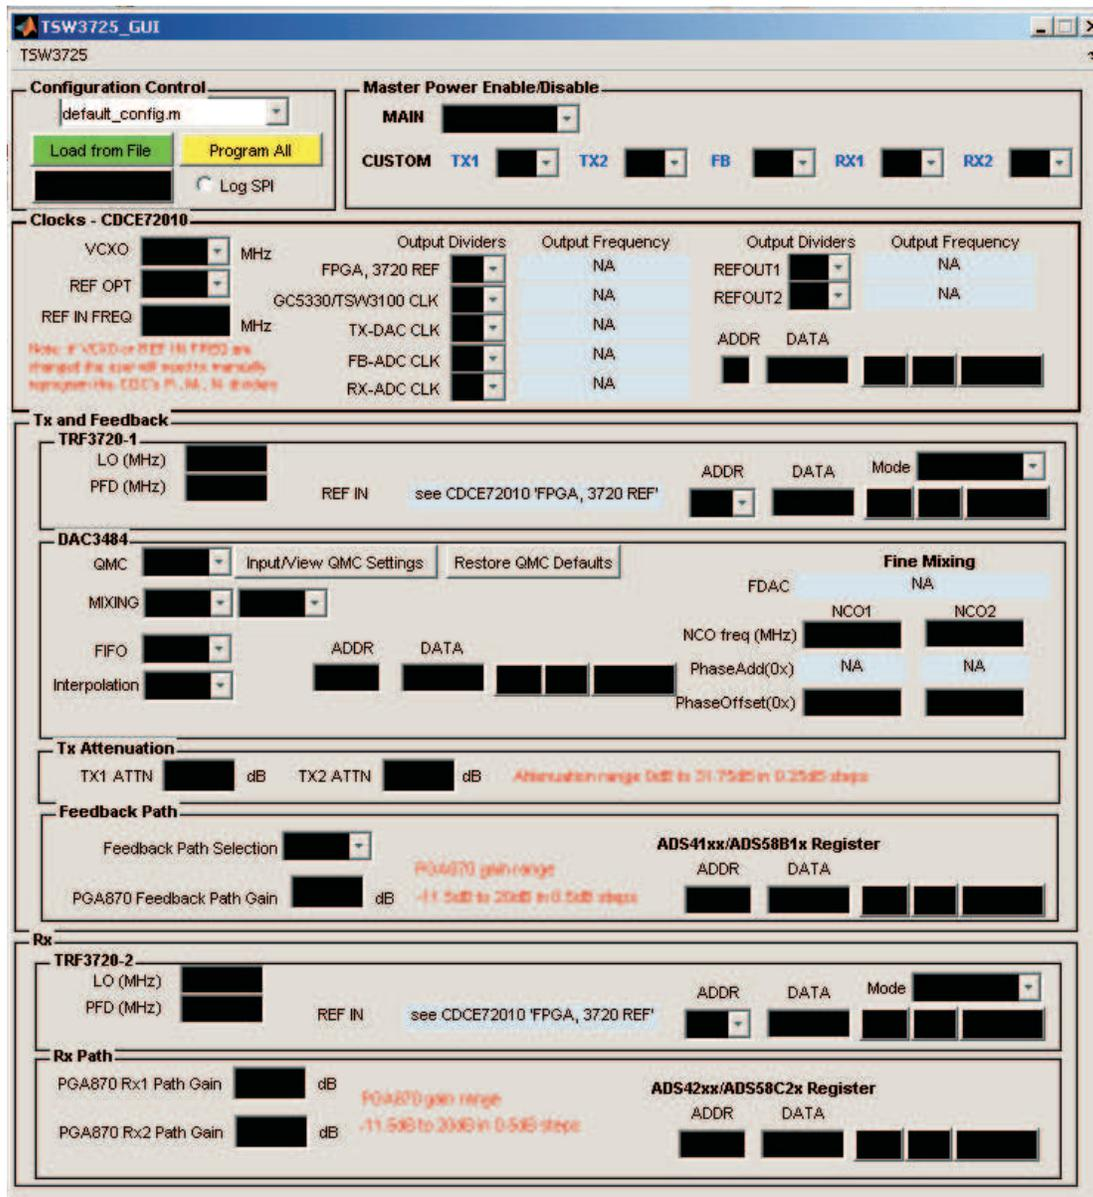

Figure 9. TSW3725 GUI at Start-Up
3. The GUI appears as shown in Figure 9